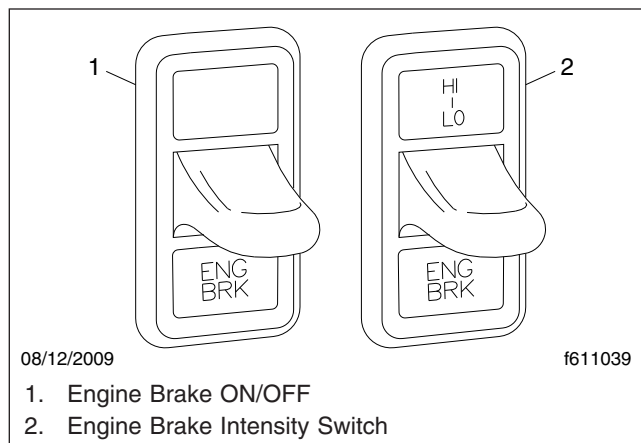

Fig. 10.5, Engine Brake Switches
- The dash mounted ON/OFF switch (ENG BRK), is used to turn the engine brake ON and OFF. See Fig. 10.5.